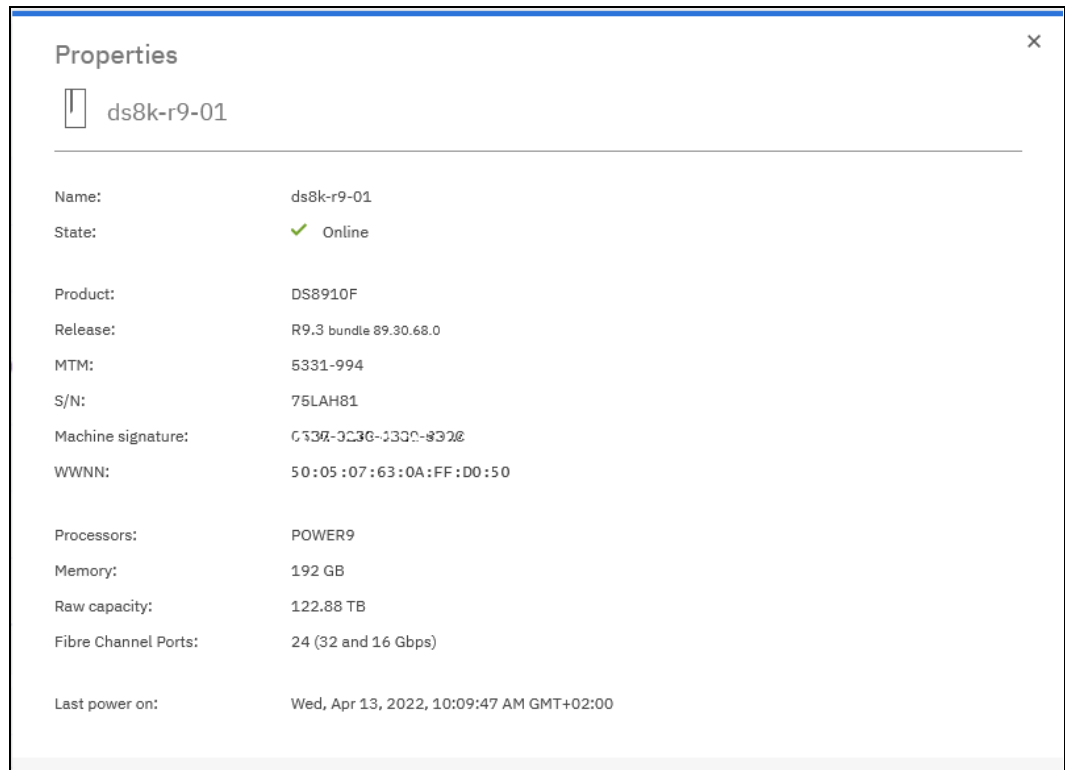

Figure 5-6 System properties: WWNN
3. Select **Properties** to obtain the WWNN value, as shown in Figure 5-6 on page 157.